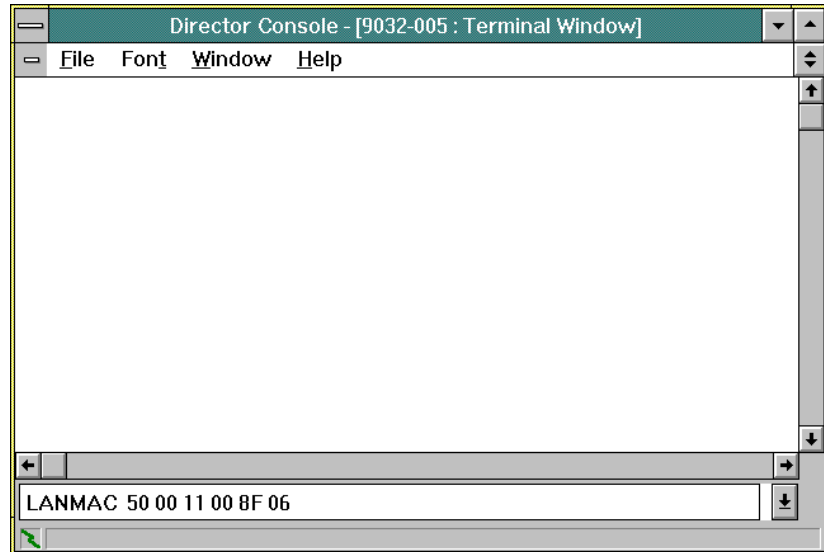

Figure 10-19. Terminal Window
5. Type a maintenance authorization password (default is **LEVEL002**) and click the *OK* button. The *Terminal* window appears (Figure 10-19).